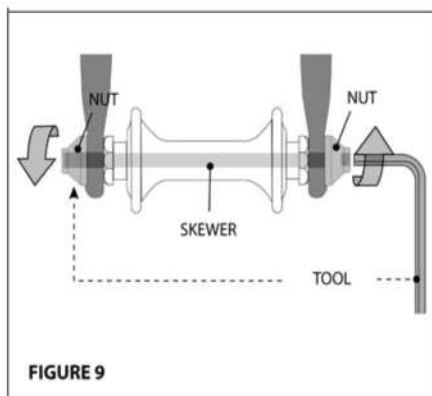

FIGURE 9
- A hollow axle with a shaft (“skewer”) running through it which has a nut on one end and a fitting for a hex key, lock lever or other tightening device on the other (through bolt, fig. 9)